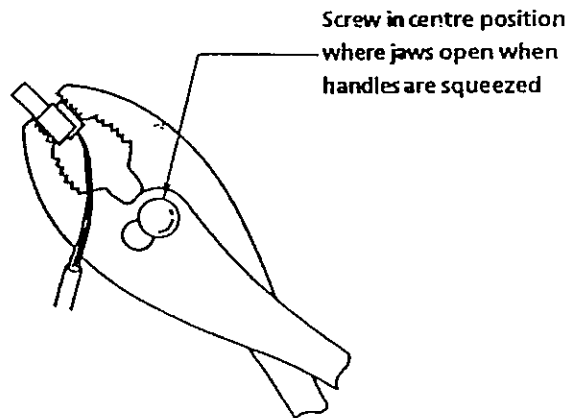

Figure 1-41 Positioning the Screw of the Pliers
**Note:** If sufficient pressure cannot be applied when the screw of the pliers is in the centre position, adjust the position of the screw to allow the jaws of the pliers to close. Be careful when squeezing the handles of the pliers as excessive pressure may cause damage to the connectors. (Refer to Figure 1-41 - Positioning the Screw of the Pliers).